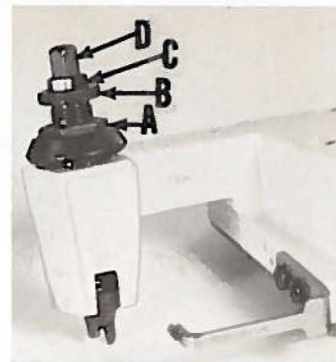

Fig. 2
Sufficient presser foot pressure to feed work uniformly should be maintained. Should it be necessary to increase or decrease the amount of pressure on presser foot, loosen lock nut (A, Fig. 2) and turn adjusting screw (B). Adjusting screw has a right hand thread, so tightening increases pressure, loosening decreases pressure. When pressure adjusting screw (B) has been properly set, tighten lock nut (A). With presser foot resting on throat plate, position locking nut (C) so that its under surface is approximately $1/32$ inch to $1/16$ inch from the top surface of adjusting screw (B). Set cap (D) against locking nut (C).